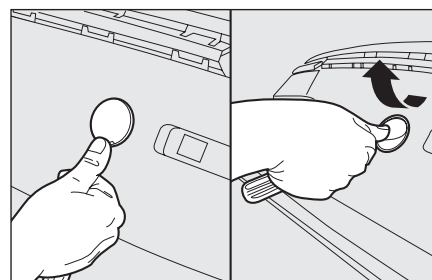

fig. 47
- ☐ rest your thumb on the cap to avoid damage **fig. 47**;
- ☐ extract the cap (without turning it) perpendicularly to the supporting surface **fig. 47**.